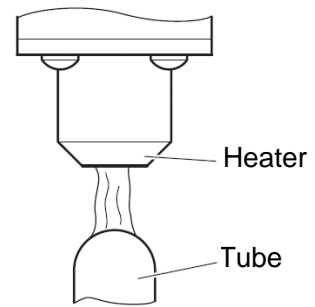

Figure 2. Improper welding
(1) The melted tube inlet is stuck to the heater and the tube is raised when pulling up the handle (see figure 2).